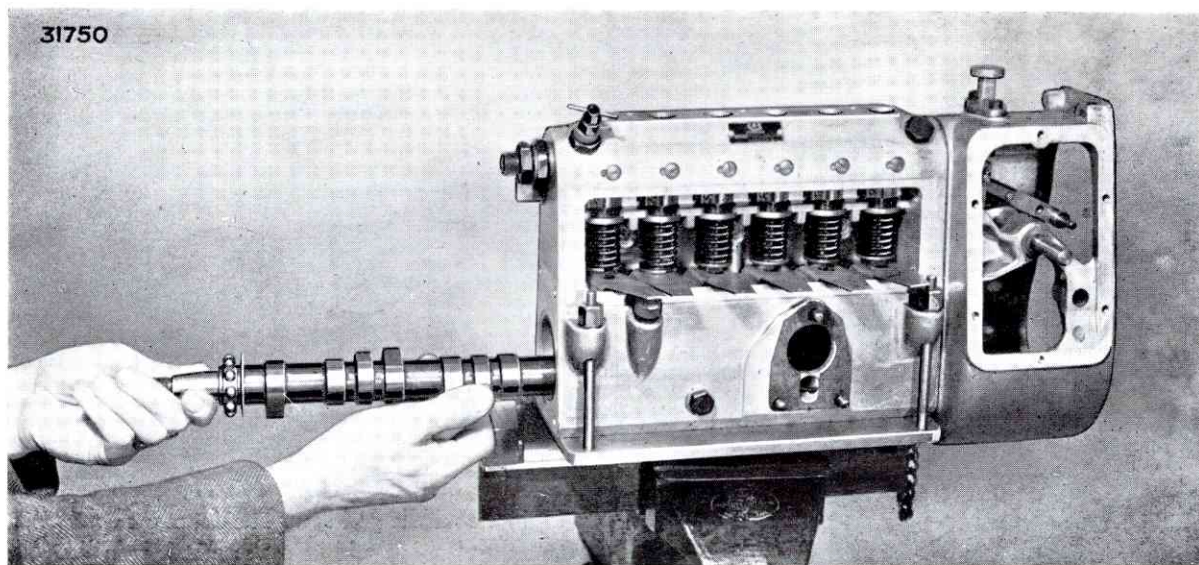

FIG. 76. REMOVING FUEL-PUMP CAMSHAFT
7. Remove the bearing end plate and withdraw the camshaft (Fig. 76). The camshaft has a chisel mark at the driving end to ensure that it is replaced correctly.